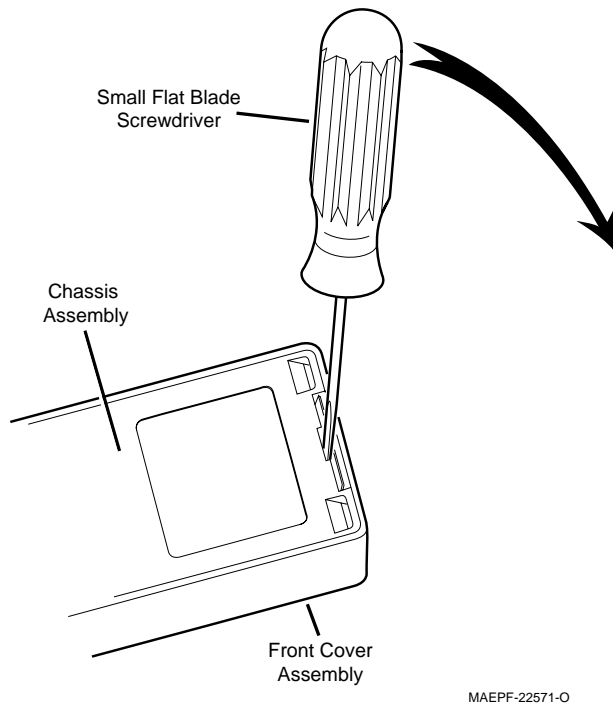

Figure 5 Separating the Cover From the Chassis
5. Separate the front cover assembly from the internal electronics (chassis) (see Figure 5).